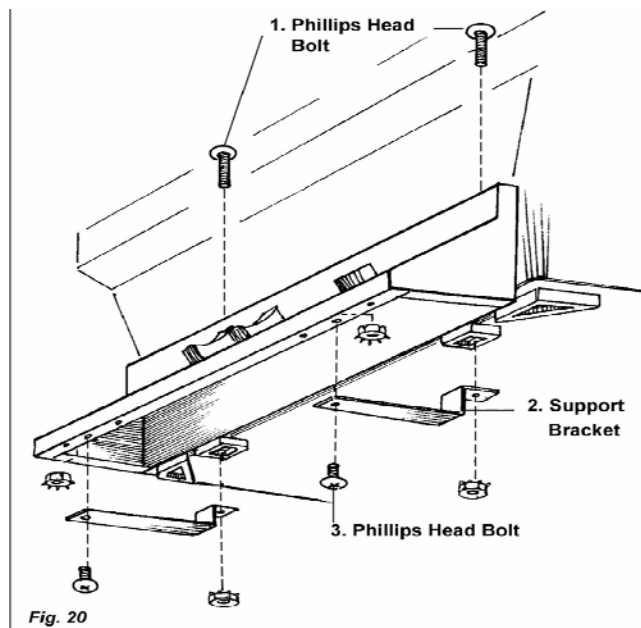

Fig. 20
B. Connecting the Control Panel Support Brackets (Fig. 20)